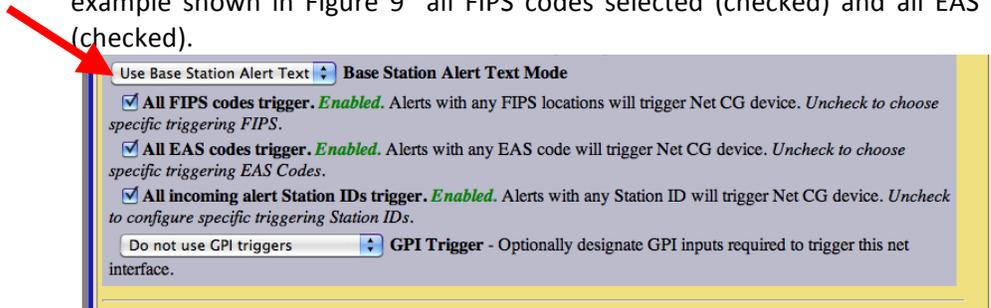

Figure 9. Setting for selecting the station text and other filtering options.
10. EAS event code and FIPS location code filters: By default, all messages with any FIPS locations and any EAS code are processed and passed to the Inovonics RDS encoder. The DASDEC supports the selection of specific EAS event code and FIPS location codes in order to restrict the processing to specific EAS alert types and locations. Both FIPS and EAS codes have a toggle controlled interface to set specific filters for limiting message processing. The example shown in Figure 9 all FIPS codes selected (checked) and all EAS codes selected (checked).